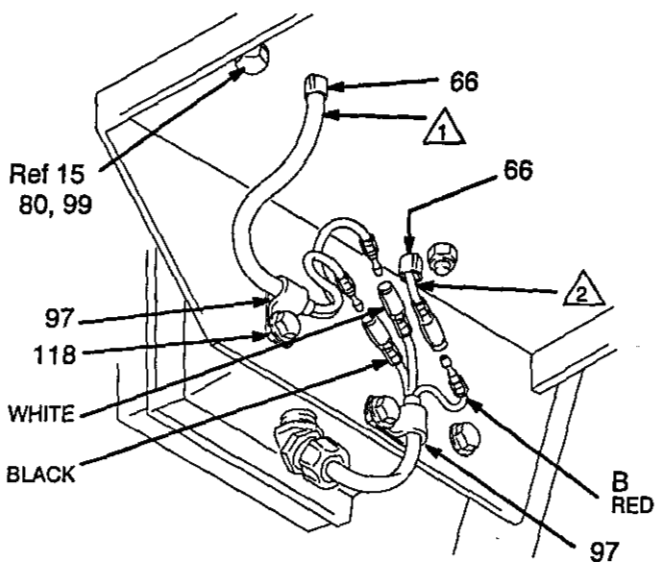

Fig. 14
8. Working under the mounting plate (A) of the cart, remove the screw (15), lockwasher (80) and washer (99) which hold the clutch housing (2) to the cart. See Fig. 14, which is the view from under the engine mounting plate.
9. Still working under the mounting plate, remove the two locknuts (111) and then pull the screws (14) out of the base of the engine. Disconnect the red wire from the engine lead (B). Disconnect the black and white wires from the field. Loosen the clamp (97). Pull the wires carefully through the grommets (66) before removing the engine. See Fig. 14 and 15.